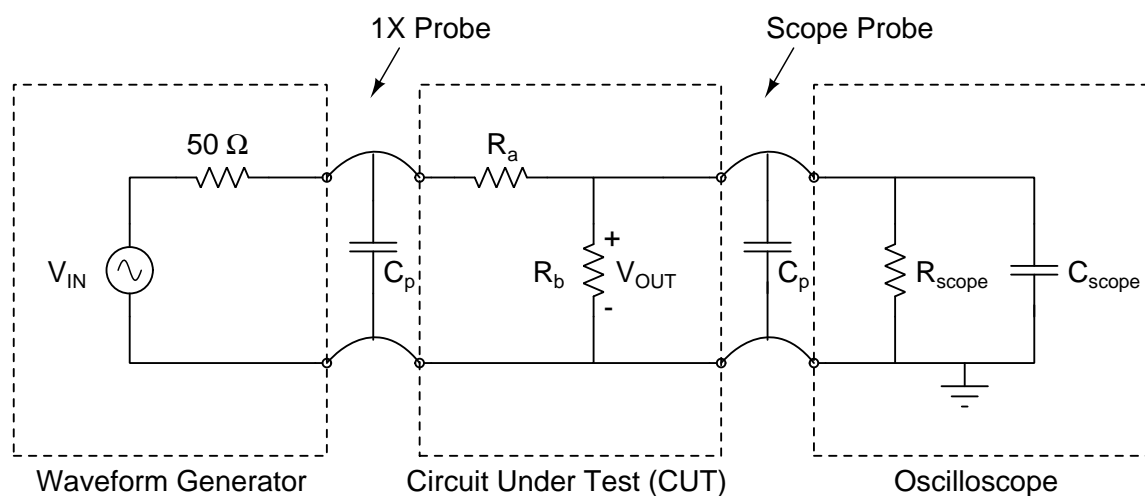

Figure 2: Measurement set-up for the resistor divider circuit.
This lab illustrates that the actual values of the components, and the impedances associated with the test equipment and cables, must be considered when determining the actual value of the voltage across a circuit element. All voltage sources, including batteries and waveform generators, have a finite source impedance. All measurement equipment, including oscilloscopes and digital voltmeters (DVMs), have a finite input impedance that presents a load to the circuit. Cables that connect the circuit to the test equipment introduce additional impedances in the circuit. The schematic of the circuit under test (CUT) when connected to a waveform generator (WG) and oscilloscope (scope) is shown in Figure 2.
1. Use NGspice to simulate the expected output voltage V_{OUT} as a function of the resistance R for the circuit of **Figure 2**. Include in the simulation the capacitance of the 1X probes, the output resistance of the WG and the input impedance of the scope. A Matlab® template file is available on the course website at: (https://davidkotecki.com/ECE214/docs/Matlab/ECE214_2021_Lab1_B.m).